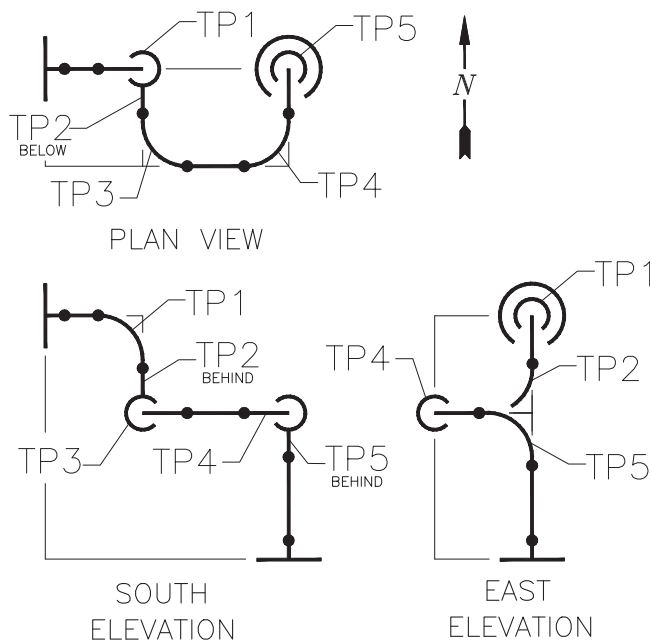
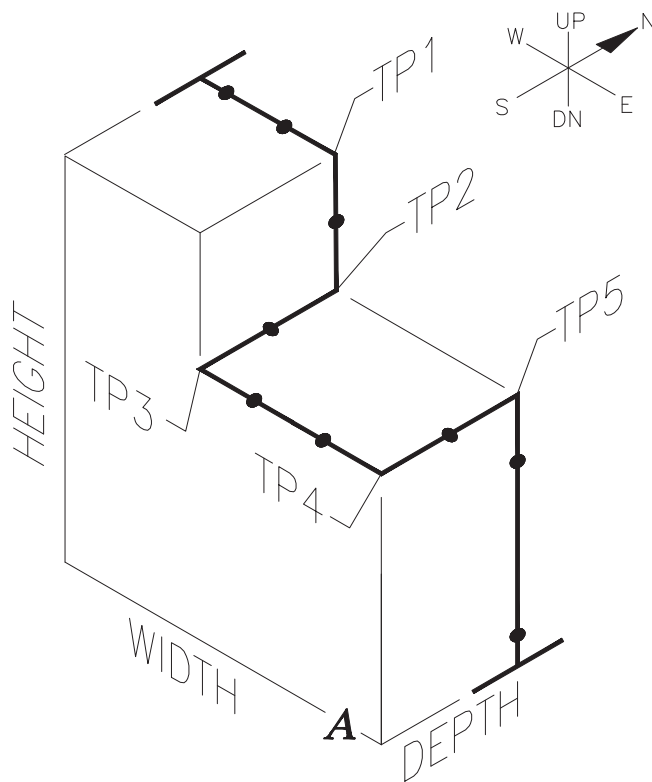
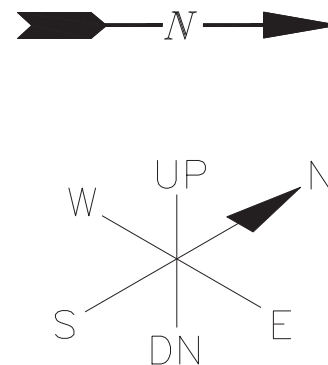

FIGURE 13.3 Piping orthographic views.
FIGURE 13.4 Piping isometric view.
FIGURE 13.7 Orthographic and isometric North Arrows.
found on Plan, Section, or Elevation views, a single pictorial view can result in a drawing which provides greater clarity of the piping configuration. A comparison between the orthographic views shown in Figure 13.3 and the isometric in Figure 13.4 demonstrates that an isometric with piping symbols is obviously clearer and easier to understand than standard orthographic views.
To be successful in drawing isometrics by hand, the pipe drafter must be able to interpret the information conveyed by the drawing symbols of fittings, flanges, or valves represented on Piping Arrangement, Section, and Elevation drawings and transfer that information to the isometric. After reviewing Figures 13.3 and 13.4, it is evident the elbow symbols in orthographic views and isometric views differ considerably. Piping symbols used on Plan, Section, or Elevation drawings dictate whether a pipe turns left, right, up, or down. When the pipe represented on an orthographic drawing makes a change in direction, that change must also be reflected on the isometric drawing. The point at which the pipe changes direction can be referred to as the *turning point* (TP). To correctly draw the isometric representation of a pipe shown on a Plan, Section, or Elevation view, the pipe drafter must be knowledgeable in the use of piping symbols used in orthographic views and the corresponding symbols used on isometric views.
L-shaped object in the orthographic views are oriented on the isometric view with "A" as a point of reference. By using a point of reference, proper orientation of the isometric can occur by transferring distance and direction from the orthographic view. Similarly, on piping isometrics, establishing a point of reference is imperative. Although the "A" can be seen in Figures 13.3 and 13.4, it is not an adequate point of reference. The complexity of piping configurations requires a more descriptive "point of reference" be used to establish orientation between the orthographic and isometric views. In the piping discipline, a *North Arrow* is used as a "point of reference." Accurate isometric layout is based on the correlation of the orientation of the North Arrow on the Piping Arrangement drawing and the North Arrow on the piping isometric. Figure 13.7 illustrates